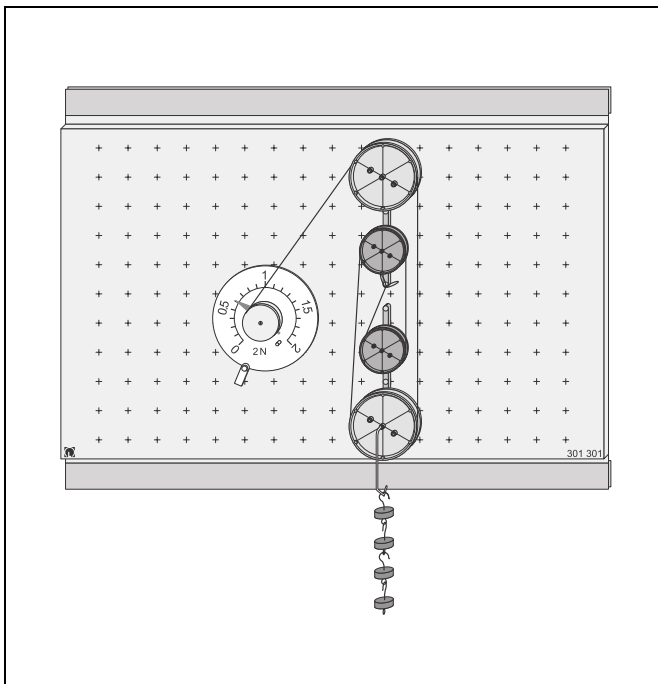

Fig. 5 Experimental setup with block and tackle
- Lay the demonstration cord – as shown in Fig. 5 – starting from the round dynamometer around all four pulleys.